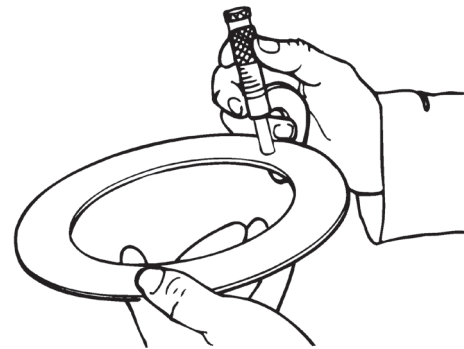

Figure 5.2
1. Use a micrometer to measure the thickness of the shim pack that was removed from the differential. Record the measurement. Figure 5.2